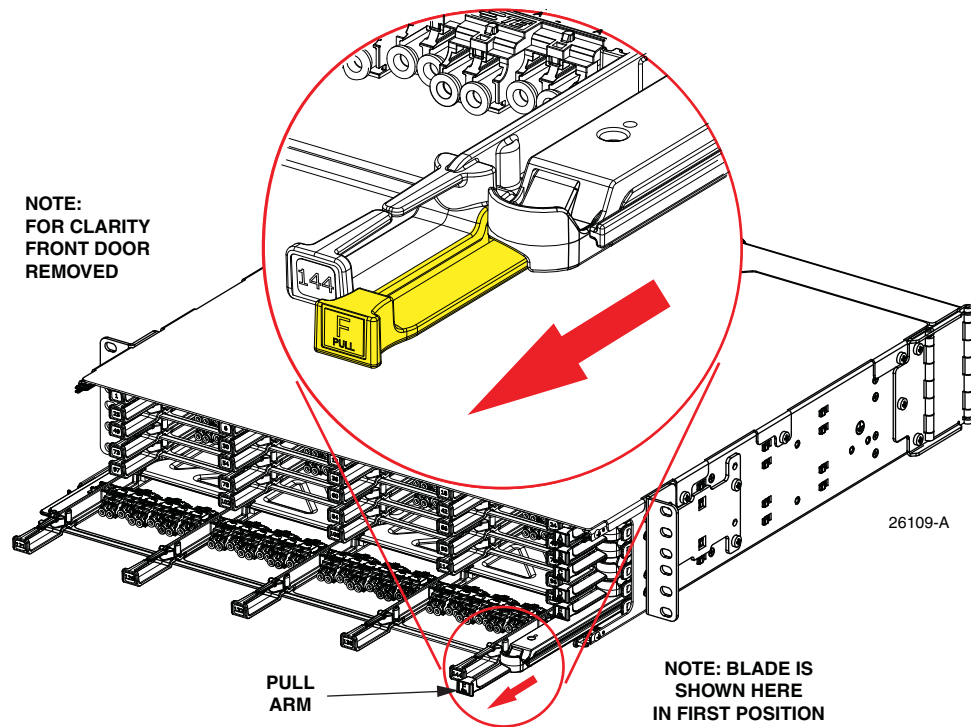

Figure 18. Sliding Out Blade to First (Access) Position
To slide out a blade to the first (access) position, pull out the pull arm on the right side of the panel until the blade contacts the first detent, as shown in Figure 18.
► **Note:** This is the opposite action to what is shown in Figure 18 on Page 18.